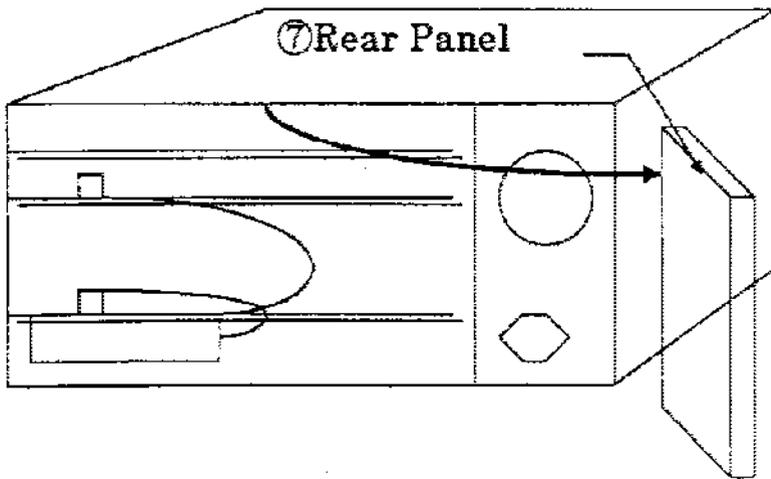

Fig.6
- ⑦ Remove REAR PANEL off from main frame.(Refer to Fig.6)
- ⑧ Paste Option label seal on the rear panel.